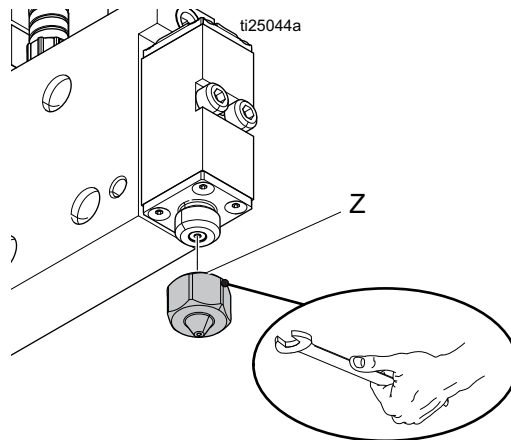

FIG. 9
2. Ensure the nozzle (Z) is removed. See **Figure 9**.
5. Press the manual override switch (M) to manually trigger the solenoid valve.